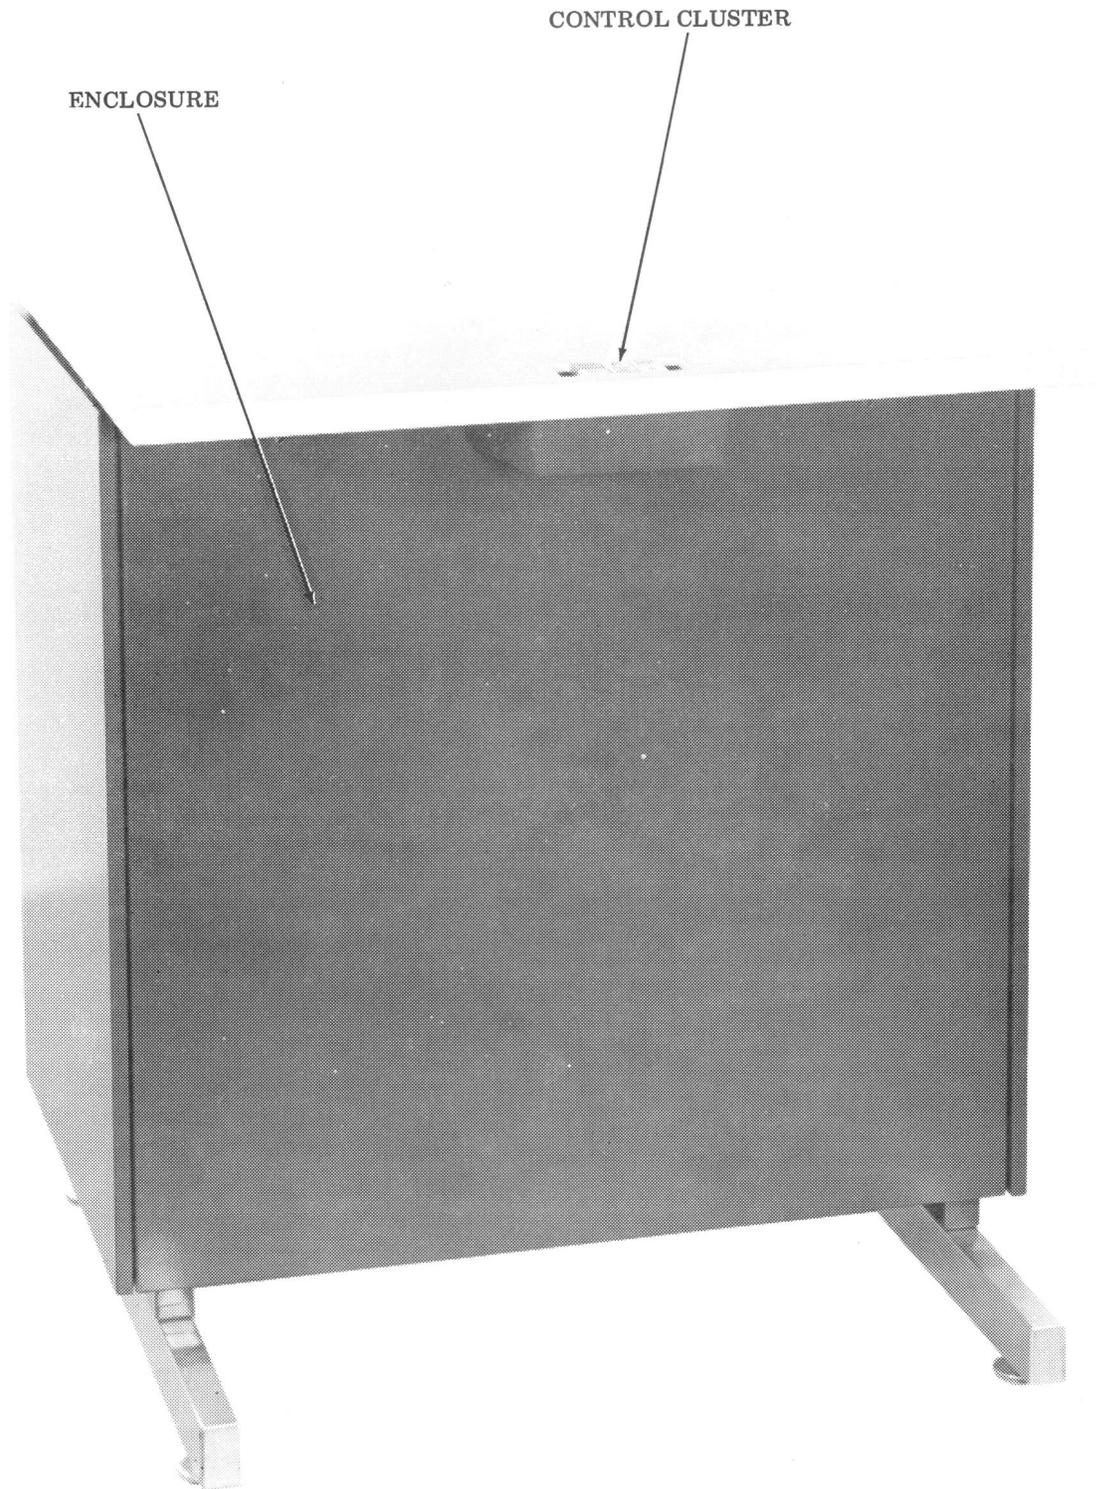

Figure 1 - Typical Buffer Set
1.01 This section provides the description and principles of operation for the 2540 Dependent Buffer Set (Figure 1). This section is being reissued to delete all information pertaining to the 2541 Independent Buffer Set. The deleted information will be placed in Section 578-141-100.
2.01 The 2540 Dependent Buffer Set consists of one or two buffer modules, a power supply, operational control cluster, and a cabinet. A typical buffer set is shown in Figures 1 and 2.